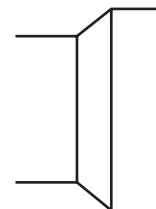

Fig. 17
**Cause:** The tubing was not positioned at the beginning of the flaring mandrel chamfer. See Fig. 17.